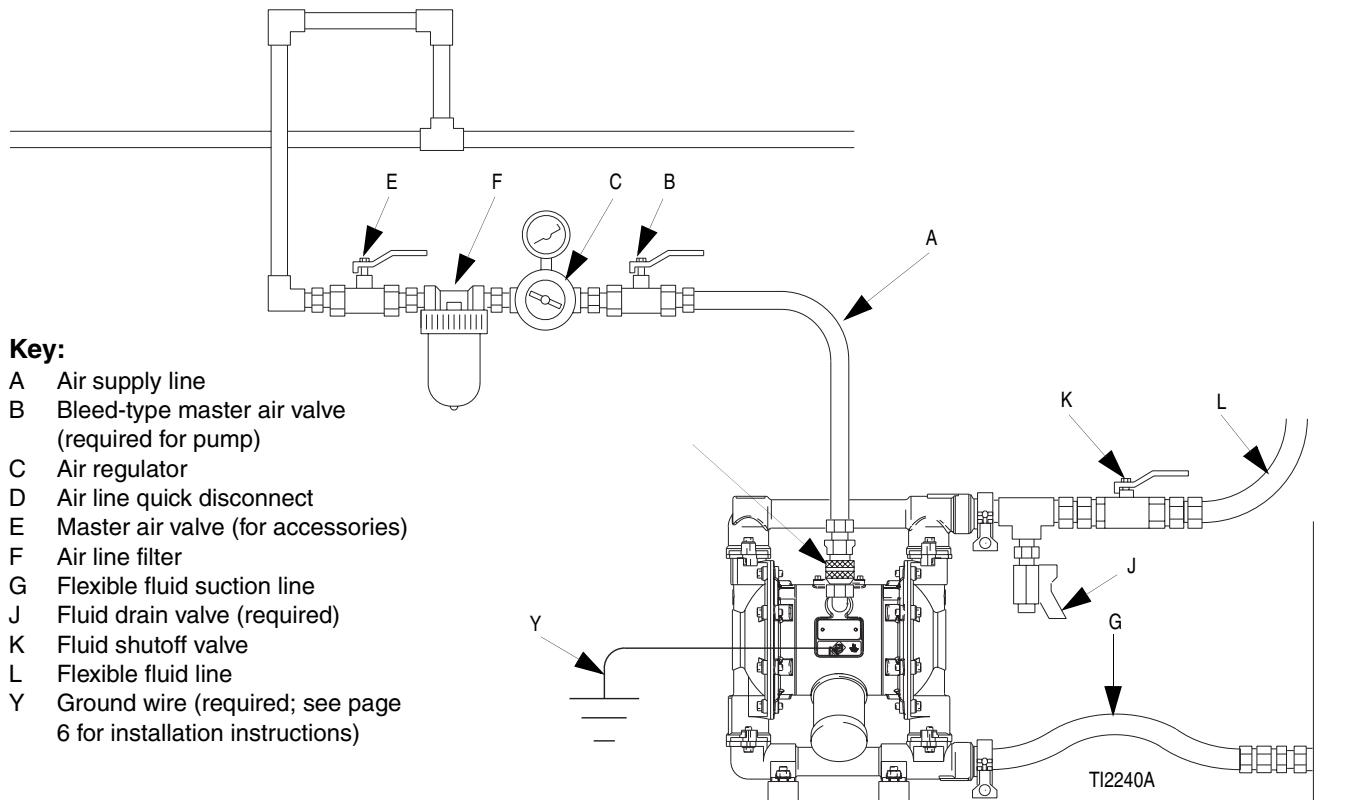

FIG. 2 Typical Floor-Mount Installation
A bleed-type master air valve (B) is required in the system to relieve air trapped between this valve and the pump. Trapped air can cause the pump to cycle unexpectedly, which could result in serious injury, including splashing in the eyes or on the skin, injury from moving parts, or contamination from hazardous fluids. See FIG. 2.
1. Install the air line accessories as shown in FIG. 2. Mount these accessories on the wall or on a bracket. Be sure the air line supplying the accessories is grounded.
- a. Install an air regulator (C) and gauge to control the fluid pressure. The fluid outlet pressure will be the same as the setting of the air regulator.
- b. Locate one bleed-type master air valve (B) close to the pump and use it to relieve trapped air. See the **WARNING** above. Locate the other master air valve (E) upstream from all air line
A fluid drain valve (J) is required to relieve pressure in the hose if it is plugged. The drain valve reduces the risk of serious injury, including splashing in the eyes or on the skin, or contamination from hazardous fluids when relieving pressure. Install the valve close to the pump fluid outlet. See FIG. 2.
1. Use flexible grounded fluid hoses (L).
3. Install a fluid drain valve (J) near the fluid outlet. See the **WARNING** above, and FIG. 2.
4. Install a shutoff valve (K) in the fluid outlet line.